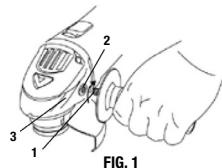

FIG. 1
- Install the side handle (1) by screwing it clockwise into the left side (2) of the gear housing (#3 in Fig. 1).